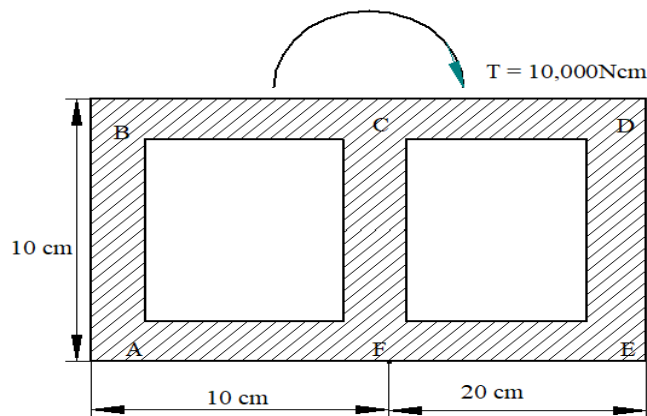

Figure 5a
- 5 a) Find the shear flow and twist per unit length of two tube structure as shown in Figure 5a, Take $G = 25 \times 10^5 \text{ N/cm}^2$ and thickness $t = 0.1 \text{ mm}$